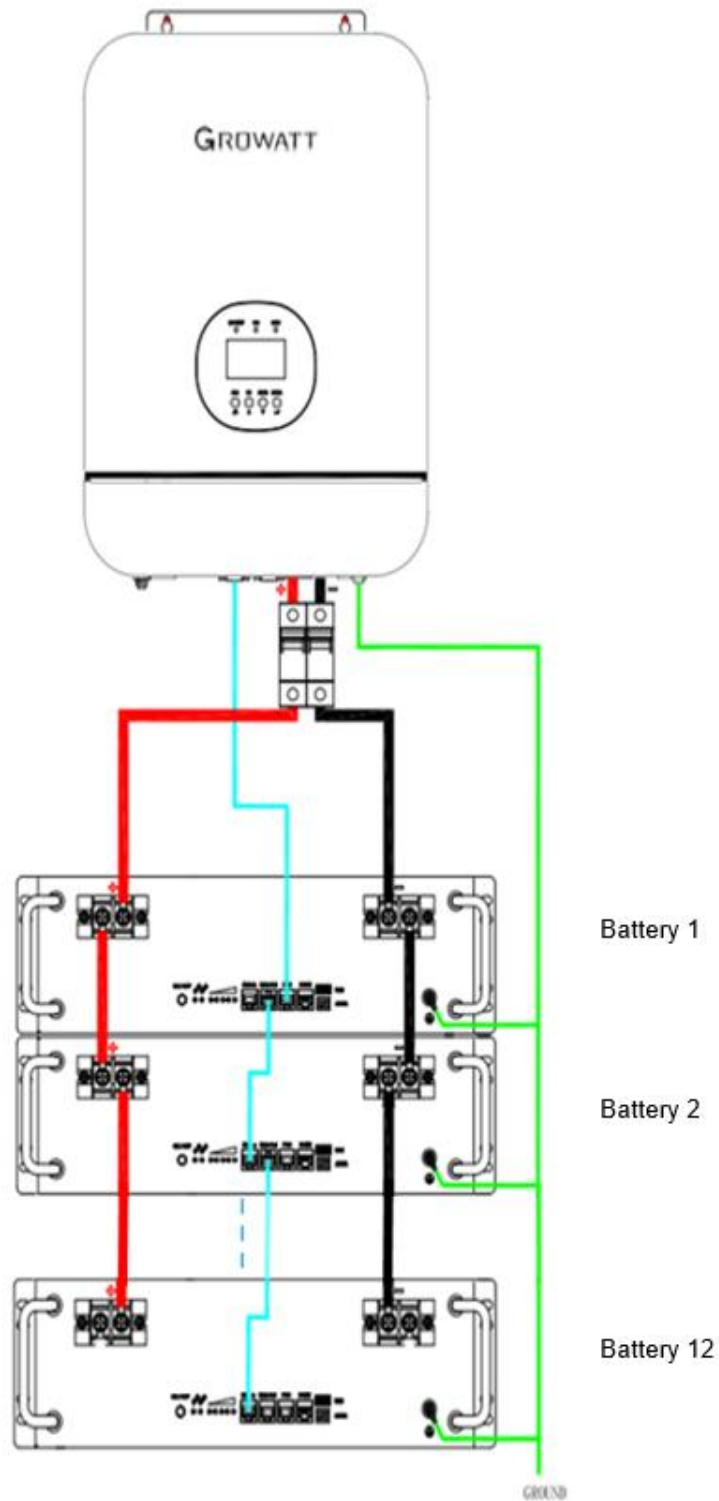

Figure 7: Installation diagram for capacity expansion
- 2) Refer to Figure 7 for power cable wiring